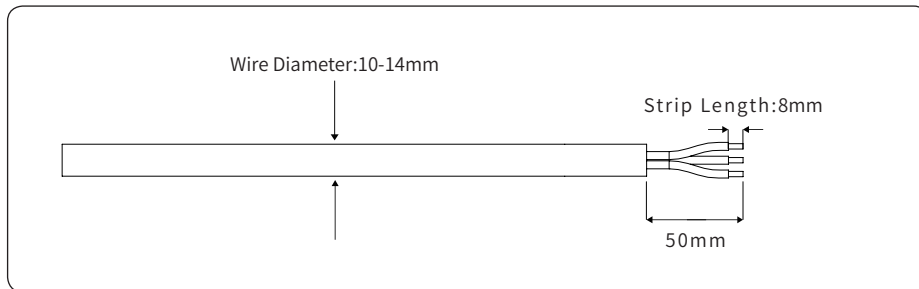

Figure 4-15
2) According to the table above, select an appropriate cable, peel the insulation sleeve of AC cable off for 50mm, and peel off the end of L /PE / N wires for 8mm, as shown in Figure 4-15: